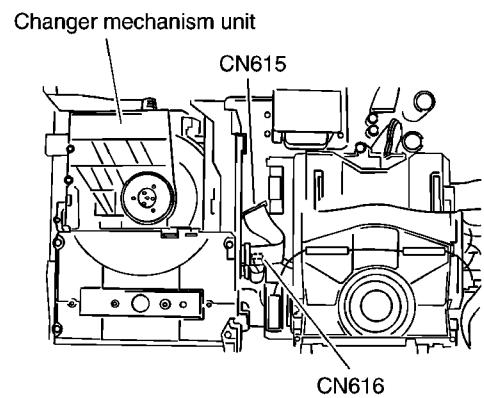

Fig.2
■ Removing the changer mechanism unit (see Fig.2~4)